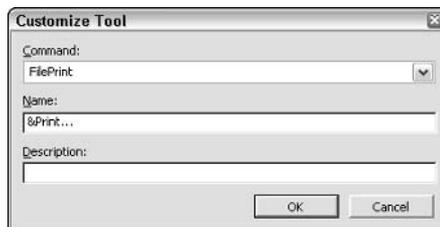

Figure 23-32: The Command entry in the Customize Tool dialog box is the name of the macro that Project invokes.
4. Select the Assign Macro command from this menu to open the Customize Tool dialog box, as shown in Figure 23-32.